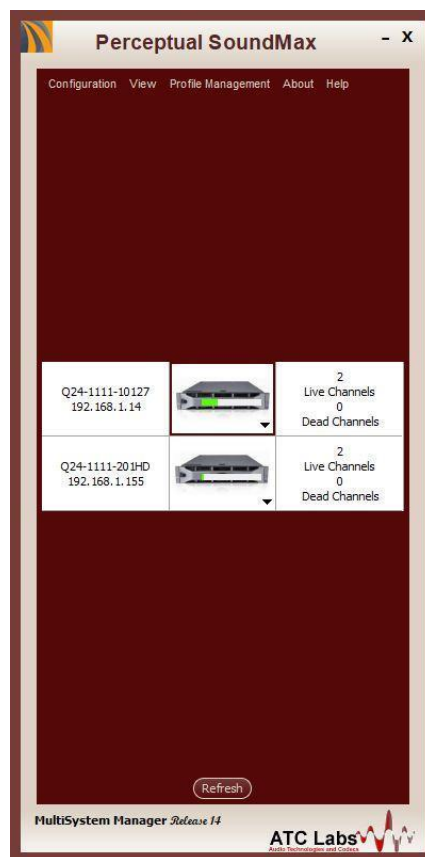

Figure 2.5.1: SoundMaxManager™ UI Screen
- After the SoundMaxManager™ installation, the user interface screen (UI) shown in Figure 2.5.1 below will appear.